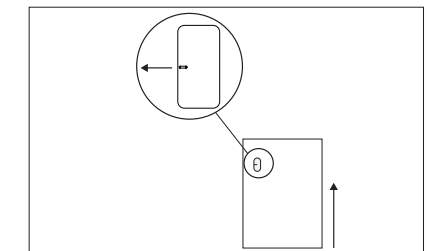

Figure 4.2: Tilt Detector orientation
5. Mount the detector on the top section of the moving surface with the alignment mark facing left. Refer to *Figure 4.2*.